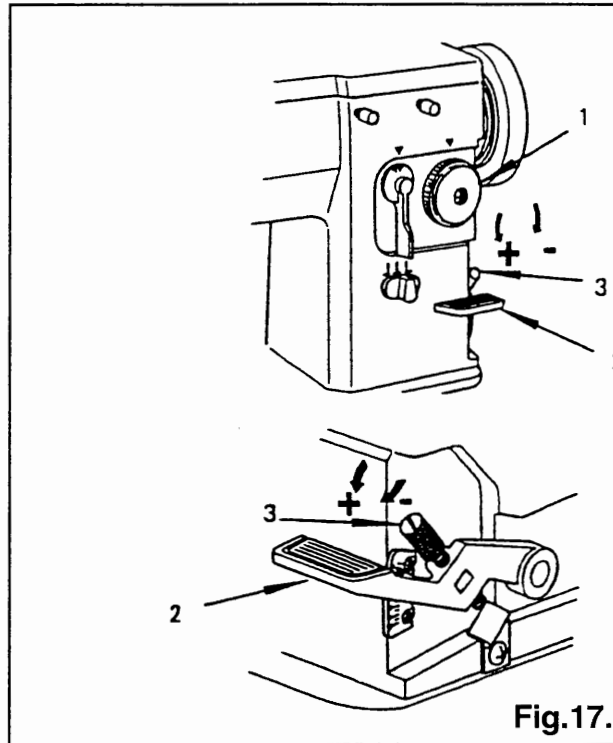

Fig.17.
To regulate the stitch length, turn feed regulating dial (1) Fig.17, toward left or right as required.
Push lever (2),Fig.17.down for reverse feed and release for forward feed.
To regulate the reverse stitch length, turn thumb screw (3)Fig.17, toward left or right as required.